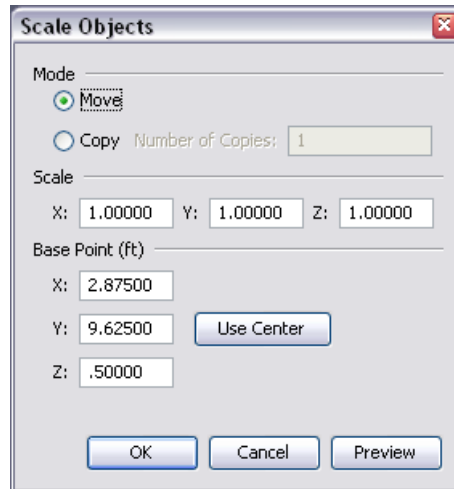

Figure 110. The scale dialog being used to scale an object
3. This will show the Scale dialog as in Figure 110.